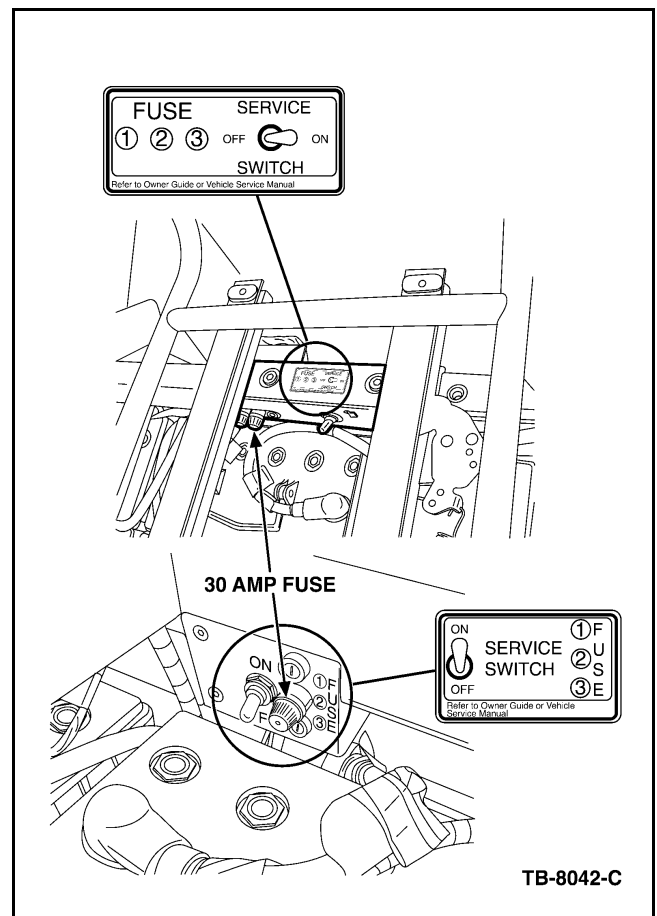

Figure 1 - Article 04-24-9
5. Turn off the service disconnect switch (SDS), located under the drivers seat cushion. There are two styles of the service disconnect switch, see Figure 1 for each style.
6. Remove the 30 AMP charger fuse (F2) and discard. See Figure 1 for (F2) location.